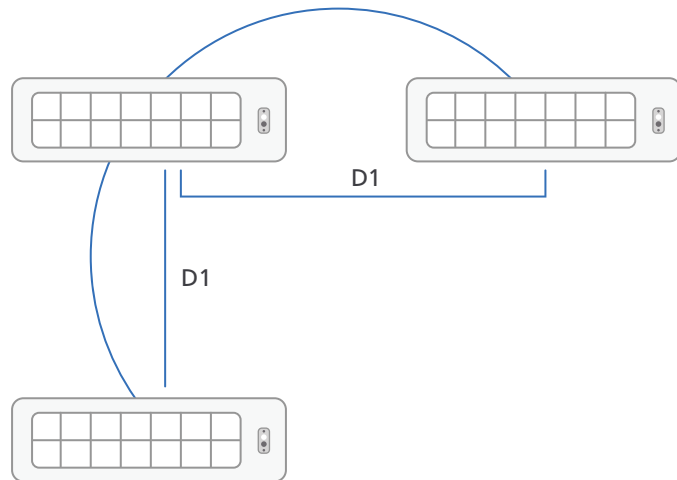

Figure 1. Application of wireless luminaires in an open space
- In open ceilings (for example in the sales floor or back of house, the distance (D1) between two wireless devices (luminaire or node) is maximum 15 m (49 ft). See figure 1.
- In closed ceilings (recessed luminaires or nodes, for example in offices) the distance (D1) between two nodes is maximum 10 m (33 ft). See figure 1.